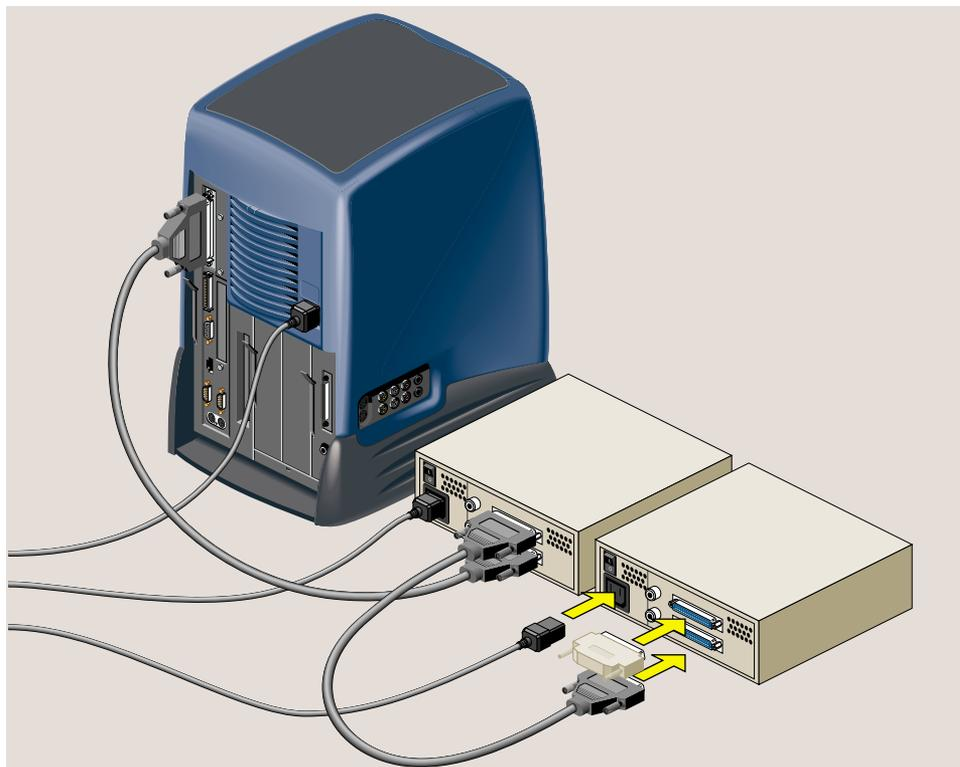

Figure 3-21 Connecting More than One Device in a Daisy Chain
5. Link the devices in a daisychain (Figure 3-21).